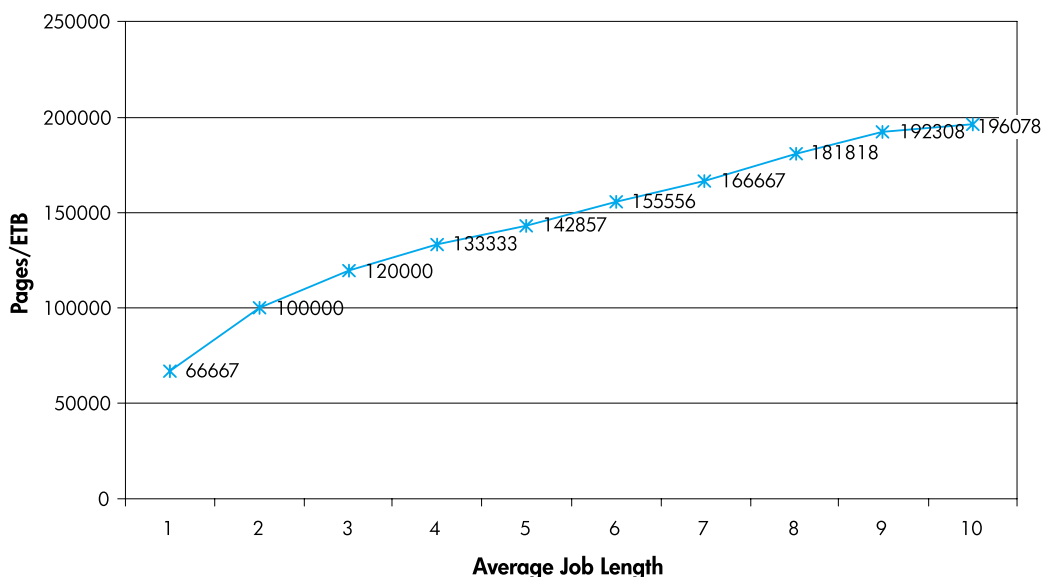

Figure 4-1 ETB total page count according to average job length
3. Usage conditions and print patterns cause results to vary. See Figure 4-1 on page 74 for more information.
Figure 4-1 shows how many pages an ETB will print, given various average job lengths.